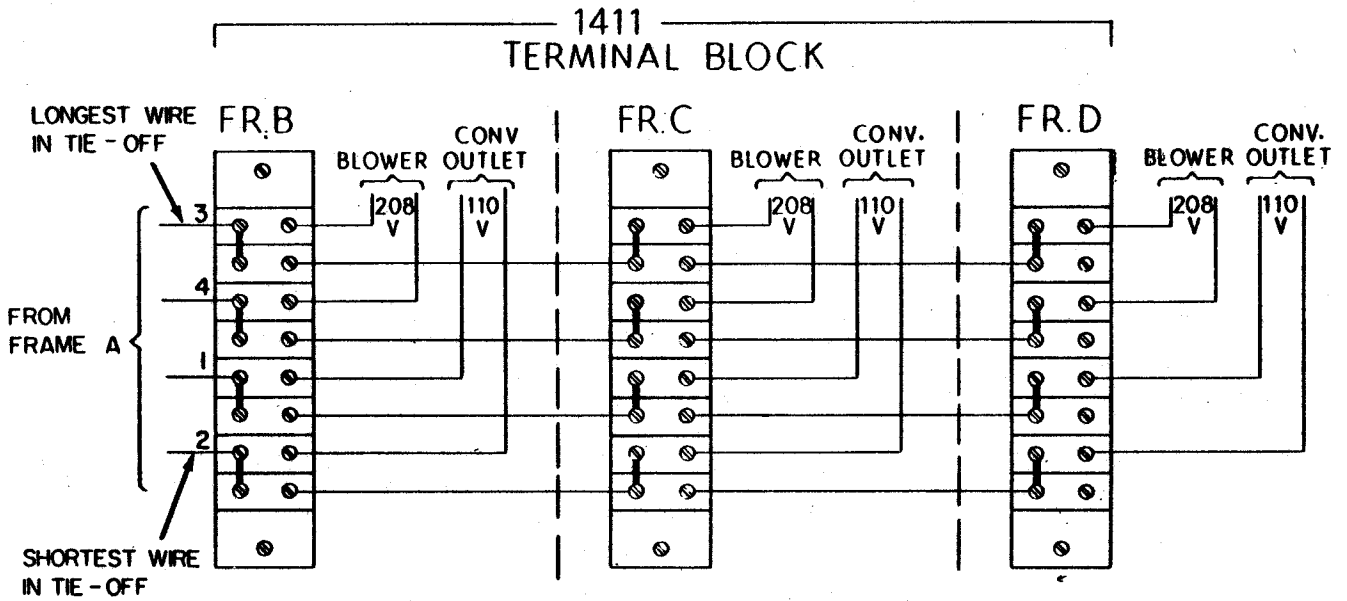

FIGURE 3-3 BLOWER AND CONVENIENCE OUTLET CABLE CONNECTION
- H. Connect the blower and convenience outlet cables (located at the bottom of the card side of the 1411 frames) to the terminal strips of the adjacent frames (Figure 3-3). Replace all safety shields.